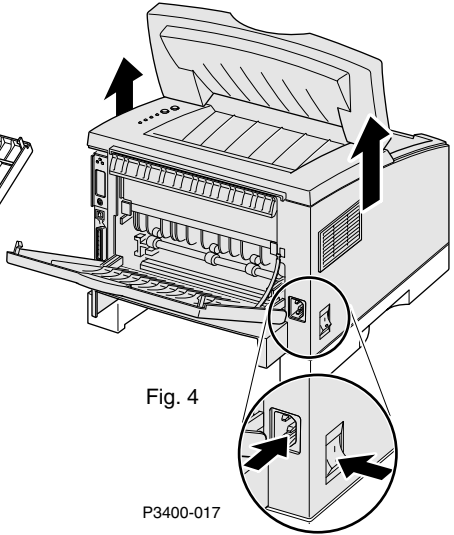

Fig. 4
8. Lift up on the Main Cover and remove (Fig 4).